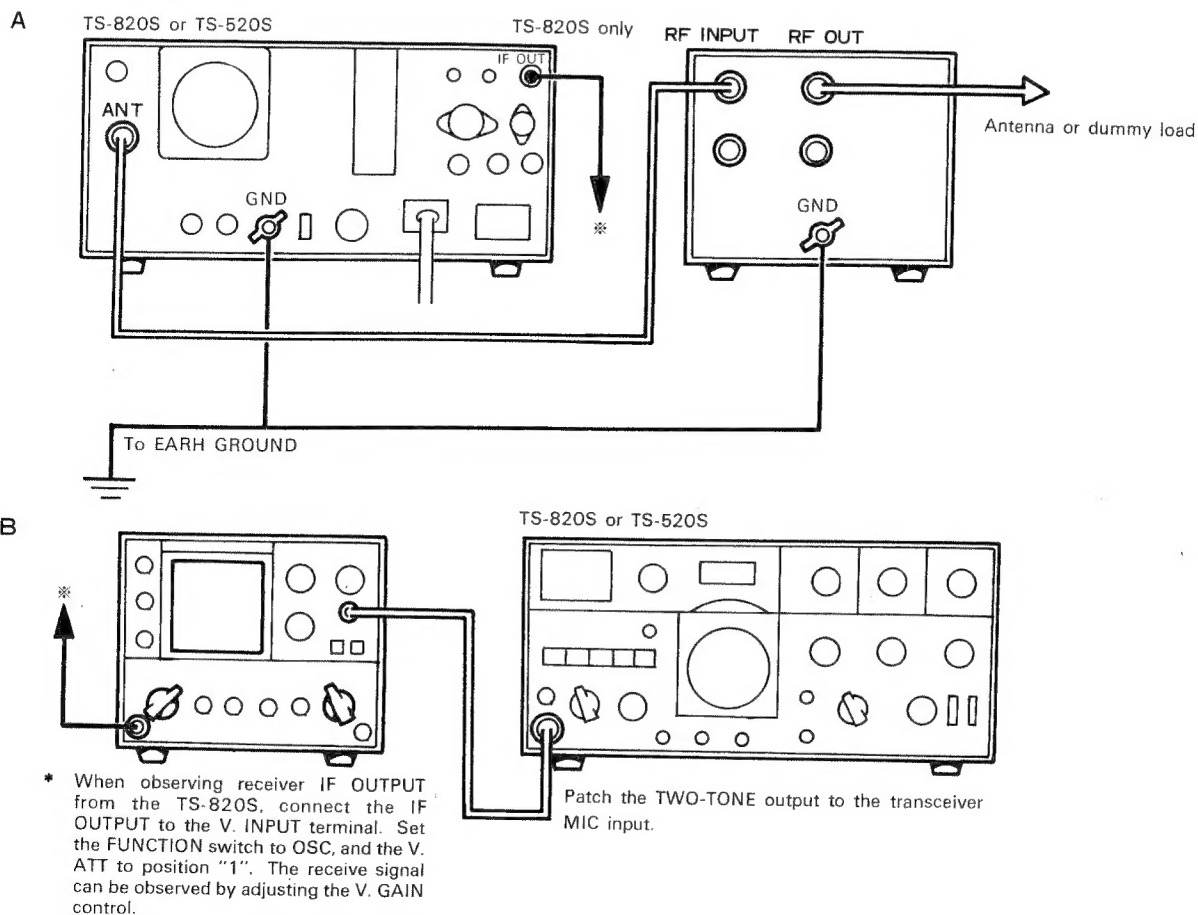

Fig. 5-1. Cabling for transmit and receive displays
Connect the SM-220 and the transceiver as shown in Fig. 5-1.
12. Cable-up the TS-520/S and SM-220, per Fig. 5-1. Operate per Section 5.2.